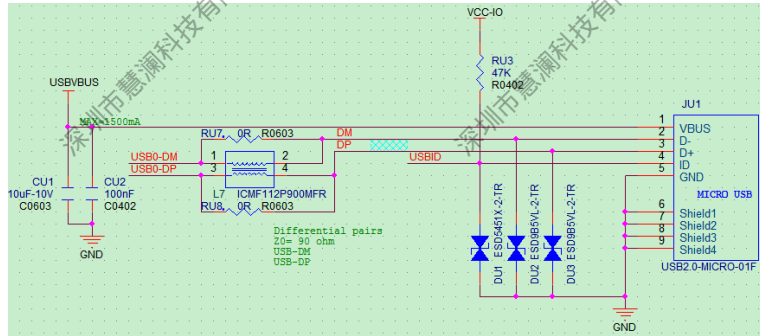

Figure 2-27 USB0 Circuit Design
- It is recommended to reserve the common mode inductor on USB D+/D-, which can layout together with 0R resistors to facilitate EMI testing and changing. As shown in Figure 2-27.